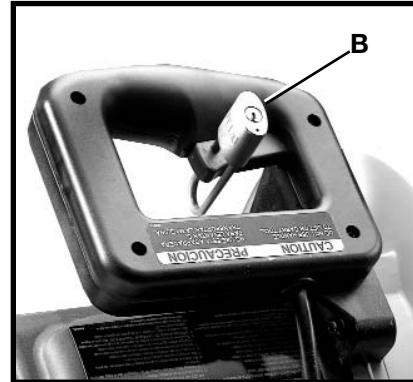

Fig. 11
IMPORTANT: When the machine is not in use, the switch should be locked in the "OFF" position to prevent unauthorized use, using a padlock (B) Fig. 11 with a 3/16" diameter shackle.